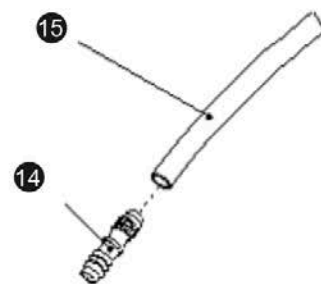

Figure 4
- Steel rod or equivalent to test ground before installation of base pipe. See Figure 4.
1. Mark the spot in the ground where you have decided to place the unit. Be sure to pre-test the area for rocky soil by using a steel rod or something similar to make a pilot hole. (See Figure 4.)